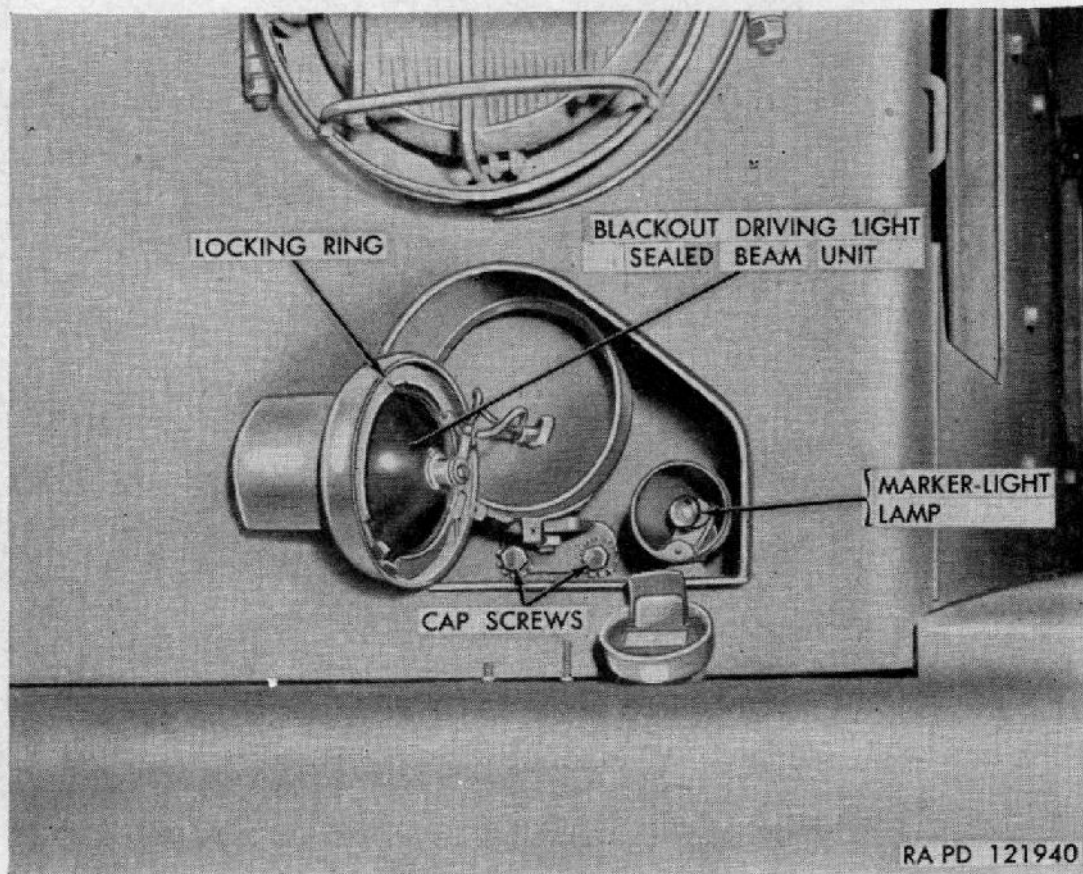

Figure 95. Blackout driving and marker light removal.
a. Replacement of Sealed-Beam Unit. If this light should burn out, the entire sealed-beam lamp unit must be replaced (fig. 95). To
replace, remove screw from bottom of unit and remove locking ring from the sealed-beam unit (fig. 95). Remove sealed-beam unit and replace it with a serviceable unit. Place locking ring in position and install cap screw at bottom of unit.
b. Replacement of Light Assembly. Disconnect wires at connector plug from inside of cab and remove two cap screws from mounting bracket from the light assembly (fig. 95). Install mounting bracket on light assembly and install bracket to hull with two cap screws. Connect wires inside of cab at connector plug.
a. Replacement of Lamp. Remove screw from bottom of marker light and lift off cover (fig. 95). Replace defective lamp and install cover and screw.